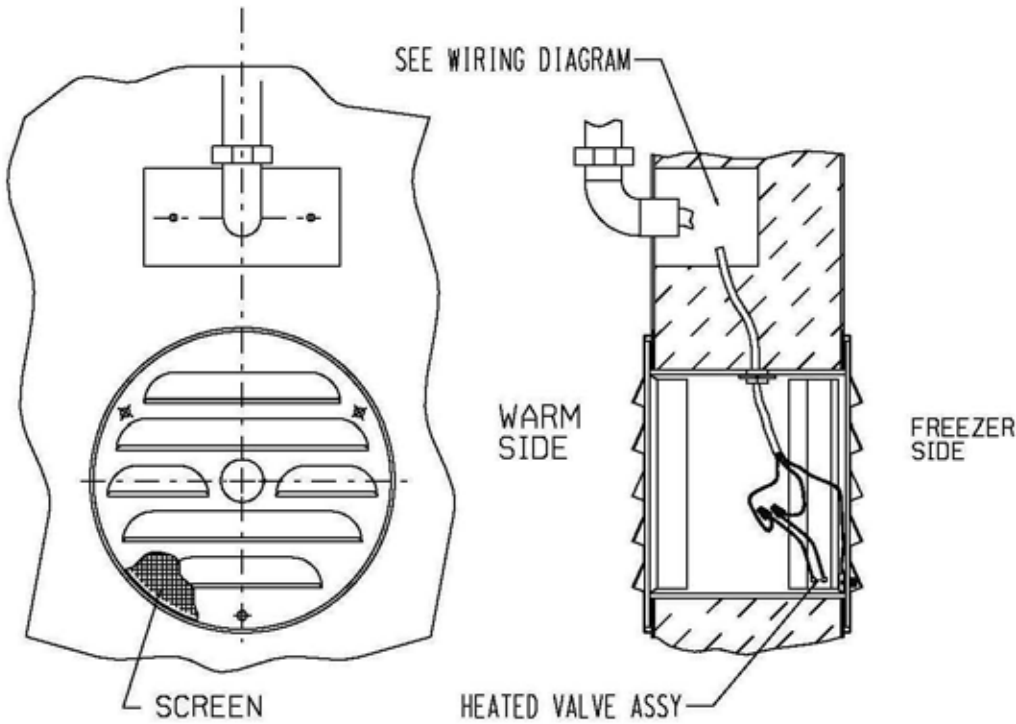

FIGURE 2
3. Cut a hole for the junction box into the outside (warm side) of the panel, the size and shape of the hole to suit the junction box to be used. Locate the box within two (2) feet from the PRP (Figure 2).
4. At mid-point in the 4-13/16 inch hole, provide a hole for the cord to pass through the insulation and into the junction box hole (Figure 2).